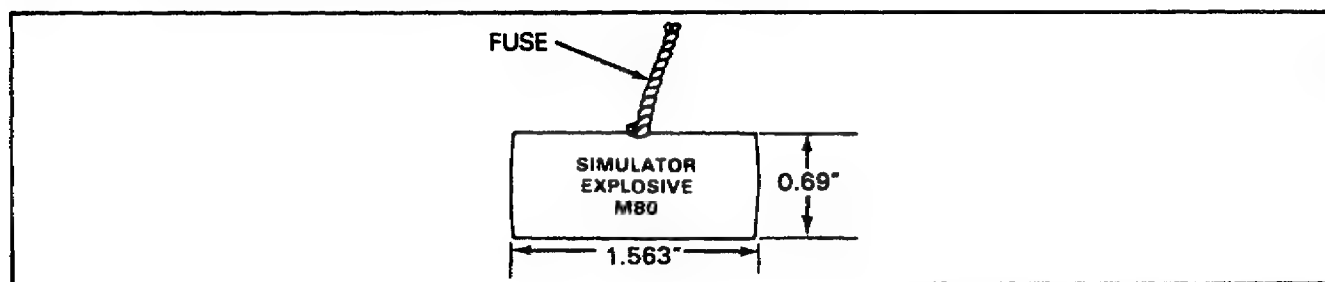

Figure 106. Detonation Simulator, M80.
**Detonation Simulator, M80.** The M80 detonation simulator (Figure 106) is simply a more powerful version of the common firecracker. It is used to simulate rifle or artillery fire or the detonation of grenades, booby traps, or mines. It is made of a paper cylinder containing three grams of flash composition. The cylinder has a fuse protruding from its side. The fuse may be ignited by a flame or by a firing device. The M80 detonation simulator is easily identified by its physical configuration and markings. The body is made of natural kraft paper, and the markings are black.